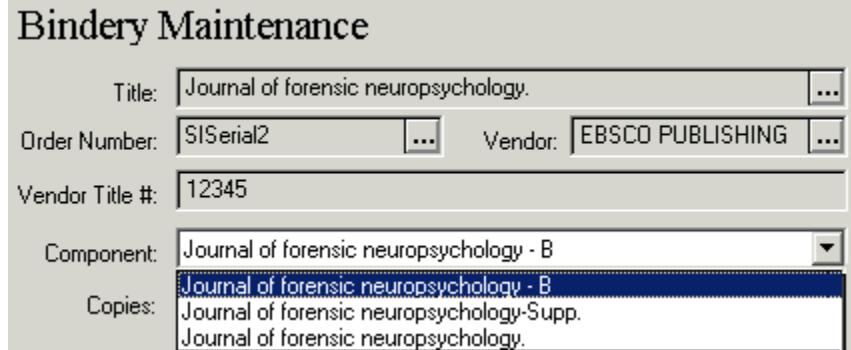

Figure 14-4. Title with multiple components
4. Click the component you want to use from the **Component** field. If there is more than one component, select the one you want from the drop-down list (see Figure 14-4).